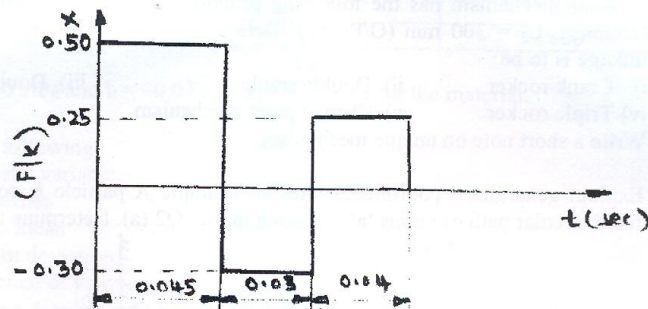

Fig. Q4 (b)
- b. A system having a natural frequency of 15 Hz is allowed to explosive type of input which has been changed to equivalent approximate steps shown in Fig. Q4 (b). Determine the phase plane plot and displacement-time plot. Find the maximum displacement of the system.